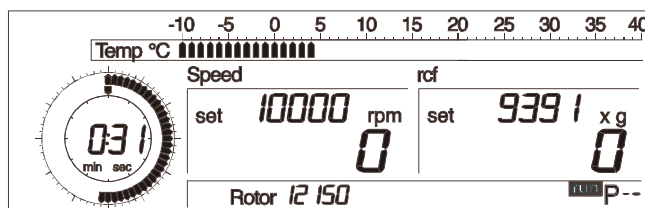

Fig. 5.22: Calling up stored programs;
- Turn the left rotary knob until “run” appears on the display (Fig 5.22).